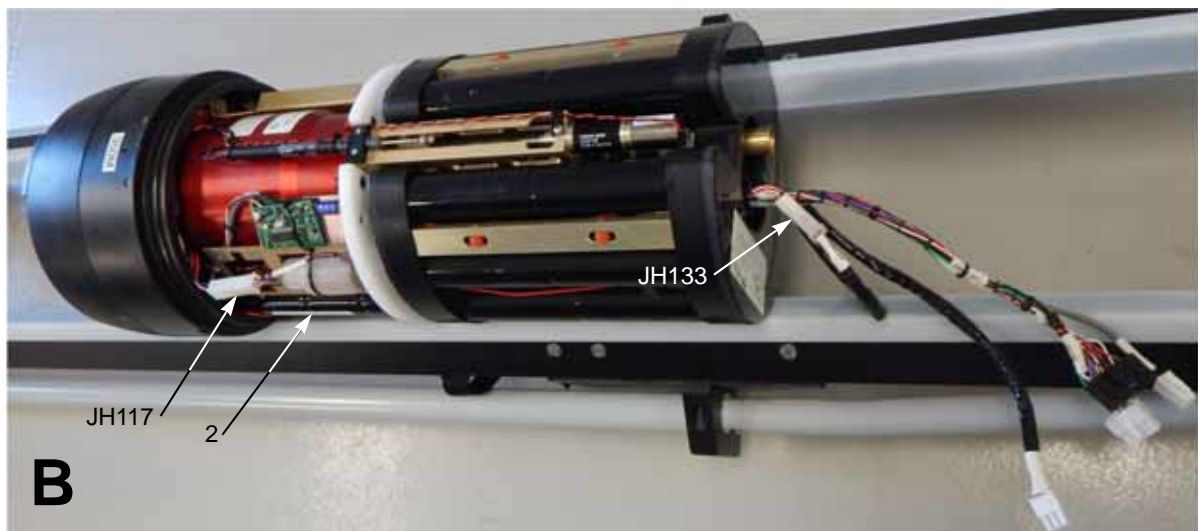

Figure 2-6 Forward/pitch glider battery pack.
1. Unplug the JH133 connection on the pitch battery (Figure 2-6 A, Item 1) from the forward assembly.
2. Unplug the JH117 connection on the pitch battery (Figure 2-6 B, Item 2) from the forward assembly wiring harness.
3. Using the 5/32" x 12" red T-handle hex wrench, loosen the screw (Figure 2-6 A, Item 3).
4. Remove the pitch battery (Figure 2-6 A, Item 1).
3. Position the pitch battery (Figure 2-6 A, Item 1) and tighten the screw (Figure 2-6 A, Item 3).
4. Connect JH117 on the pitch battery (Figure 2-6 B, Item 2) to the forward assembly wiring harness.
5. Connect JH133 on the pitch battery (Figure 2-6 A, Item 1) to the forward assembly.